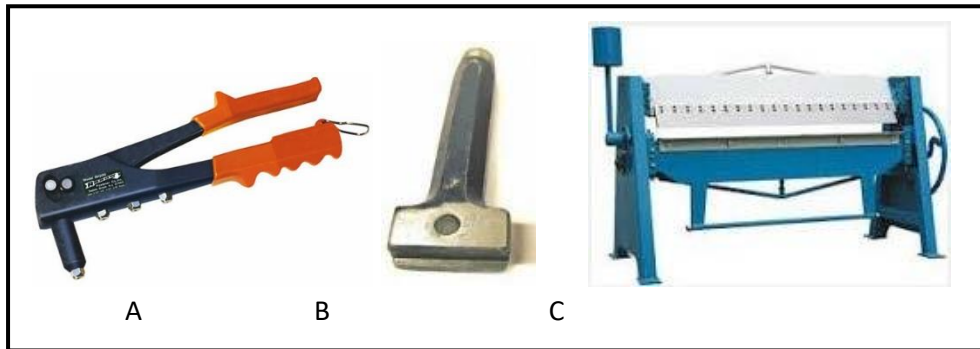

FIGURE 1.4
- 1.4 **FIGURE 1.4** below shows different tools used in sheet metalwork.
- 1.4.1 Identify tools **A–C** in **FIGURE 1.4**. (3)
- 1.5 Make a neat freehand sketch of a grooved seam lap joint with edges interlocked before it is finished with tool **B**, in **FIGURE 1.4**. (2)